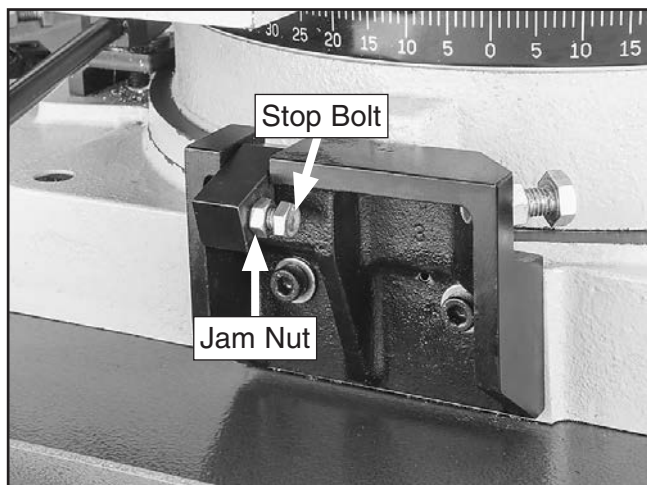

Figure 98. Example of swivel stop bolt and jam nut.
- If square *does not* fit snugly against fixed jaw and blade, disengage swivel stop, then loosen jam nut shown in **Figure 98**. Thread stop bolt in or out as necessary, then engage swivel stop.